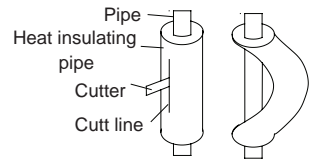

Fig.14
- (2). Do not bend the pipes in an angle more than 90°.
- (3). When pipes are repeatedly bent or stretched, the material will harden, making it difficult to bend or stretch them any more. Do not bend or stretch the pipes more than three times.
- (4). When bending the pipe, do not bend it as is. The pipe will be collapsed. In this case, cut the heat insulating pipe with a sharp cutter as shown in Fig.14, and bend it after exposing the pipe. After bending the pipe as you want, be sure to put the heat insulating pipe back on the pipe, and secure it with tape.